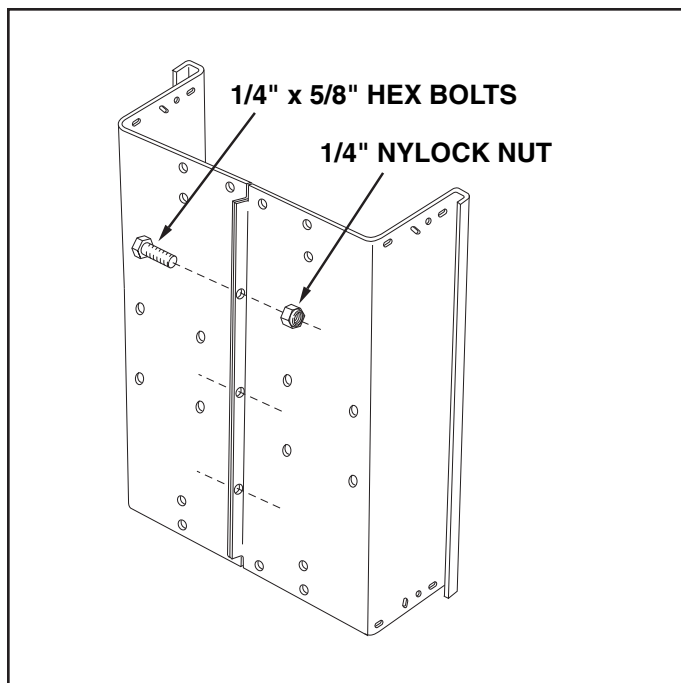

FIGURE 2
3. Position cart body halves upright on a smooth level surface such as a garage floor or a paved driveway. See figure 2.
4. Assemble halves together using three 1/4" x 5/8" hex bolts and 1/4" nylock nuts as shown in figure 2. **Do not tighten.**